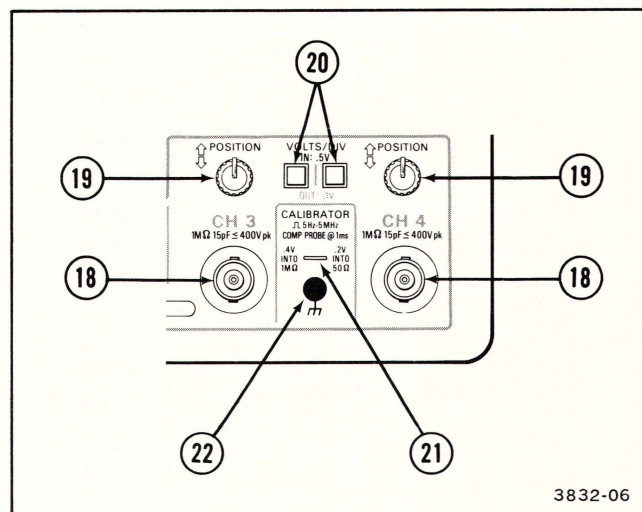

Figure 3-3. Channel 3 and Channel 4 controls and connectors and CALIBRATOR output.
Refer to Figure 3-3 for location of items 18 through 22.